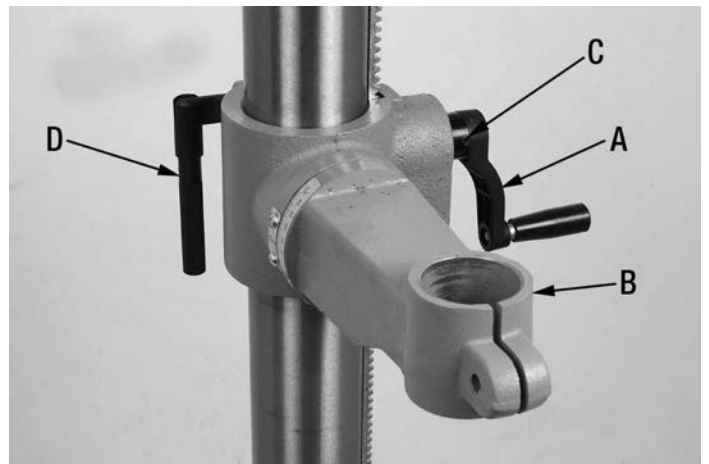

FIGURE 7
- 5) Locate the crank handle (A) Fig.7 and install it on the worm gear shaft on the side of the table support (B). Tighten the set screw (C) on the flat section of the worm gear shaft.
- 6) Install the table support lock handle (D) Fig.7 to the table support as shown.